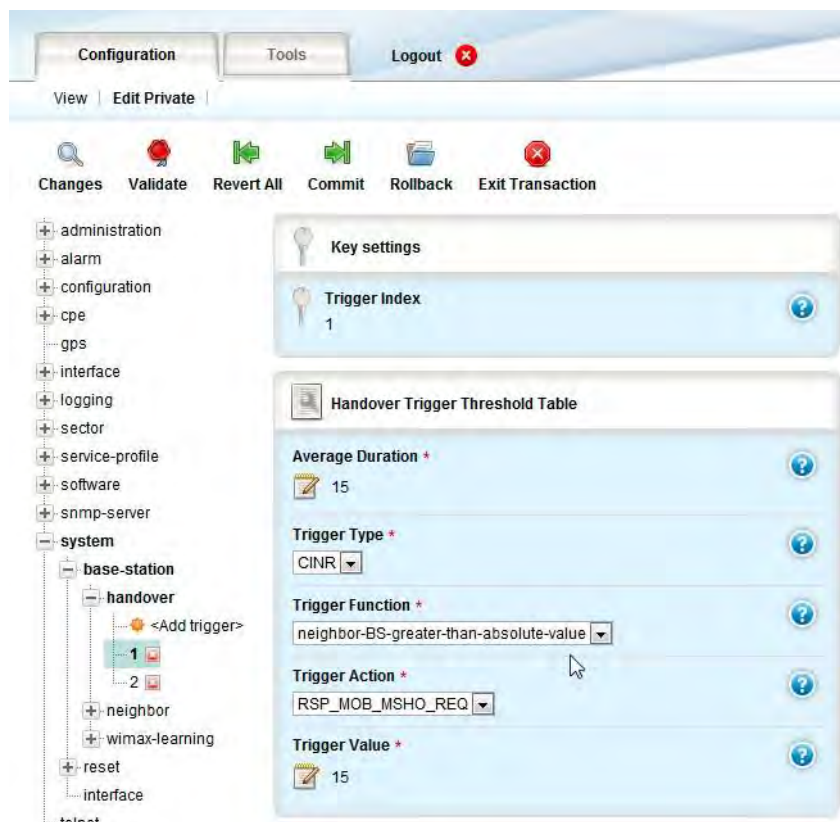

Figure 70 System Handover Trigger Setting
- **handover.** This is where triggers are set for handover operation. By default, there are no triggers. For handover operation at least two triggers must be set, one for scanning and one for handover. This information is incorporated into DCD message sent by the base station. This may be left unconfigured if no handover is desired. For each trigger following needs to be configured (Figure 70):